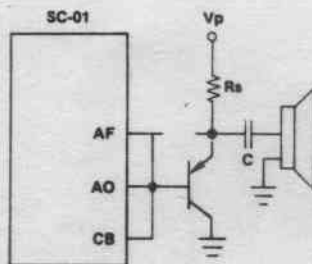

Figure 11. Class A Amplifier
**Class A Amplifier:** See Figure 11. For a single transistor amplifier, the selection of R, C, or  $R_s$  values depends upon the value of  $V_p$  and the desired audio level.